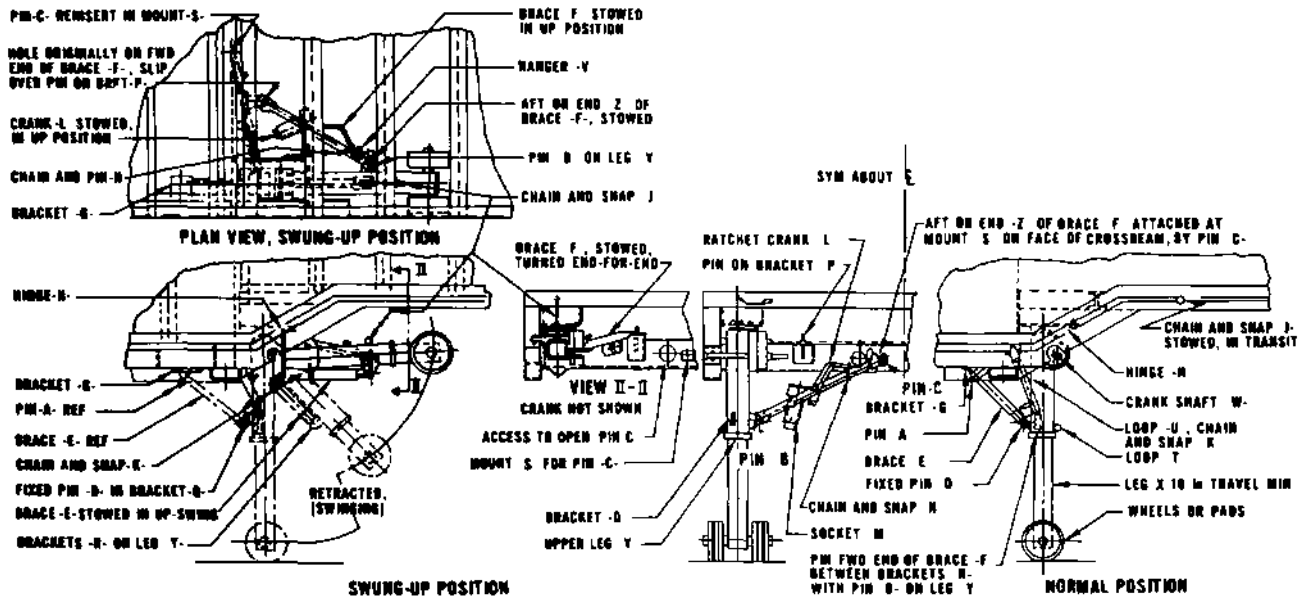

Figure 2-4. Operation and swing-up procedures.
a. Operation (fig. 2-4).
(1) With landing gears in normal operating position with legs contacting ground, unfasten snap and chain assembly (N). Remove crank (L) from stowage socket (M).
(2) Position slot in crank (L) to engage pin in shaft (W).
(3) Landing gears are two speed separately operated landing legs.
(4) Pull out shaft (W) for speed travel.
(5) Push in shaft (W) for low speed travel.
(6) Set ratchet on crank (L) to raise or lower trailer. Clockwise rotation raises van. Counterclockwise rotation lowers van.
b. Swing-Up Procedure (fig. 2-4).
(1) Using crank (L), retract leg (X) approximately 12 inches. Replace crank (L) in stowed position on brace (F). Refasten snap and chain assembly (N).
(2) Remove pin (A) from small brace. Remove pins (B and C) from large brace (F). This is the brace with the crank stowed on it. Fasten small brace to leg assembly with snap and chain assembly (K).
(3) Pick up brace (F) with crank (L) stowed on it. Turn brace end for end (plan view). Aft end (Z) is now at forward end near pin (B). Place end hole around pin on bracket (P).
(4) Manually lift each leg assembly carefully to horizontal position. Attach snap and chain assembly (J) to hold each leg. Aline hole in end (Z) of brace (F) on top of (not between) brackets (R) on leg assembly (Y).
(5) Insert pin (B) to secure each landing gear and brace in wing-up position.
c. Swing-Down Procedure (fig. 2-4).
(1) Remove pin (B).
(2) Remove snap and chain assembly (J) which secures each leg.
(3) Carefully and slowly allow leg to extend to the vertical position.
(4) Position brace (F) with crank (L) stowed on it, making certain to turn it end for end to the position is occupied prior to performance of step (3) above.
(5) Release snap and chain assembly (K) and allow brace (E) to engage bracket (G) while lowering leg assembly.
(6) Install pin (C) into mount (S). Install pins (A and B).